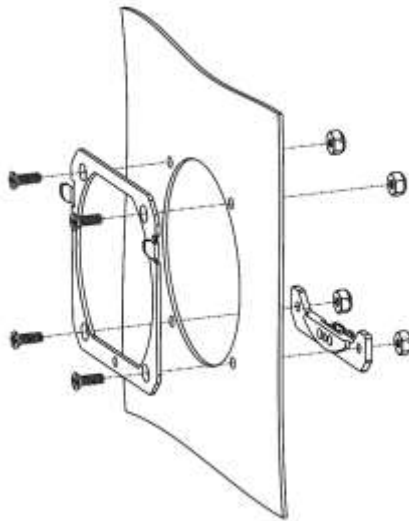

Figure 4 – Front & Rear Mounting Bracket
1. Install the bracket per Figure 4 and tighten the four screws & nuts.